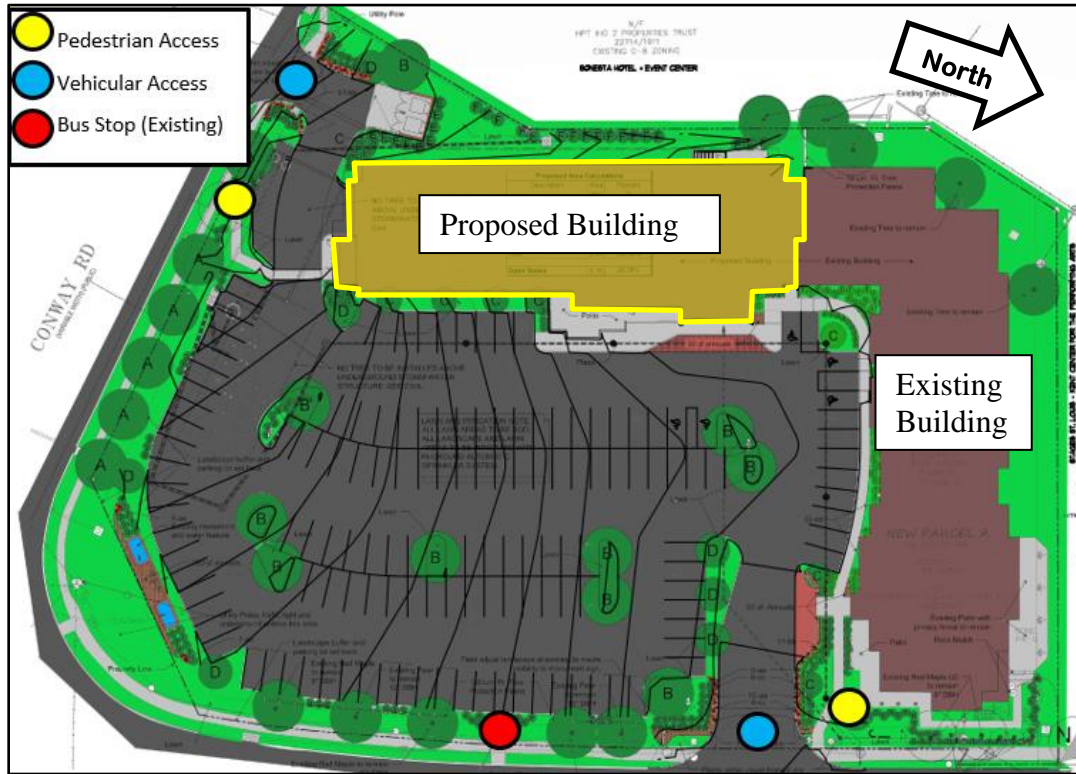

Figure 2: Color Site Plan
Two vehicular access points currently serve the site with a bus stop located along Chesterfield Parkway East. The proposed addition includes two (2) new pedestrian access points along both roads that continue through to the existing and proposed buildings while continuing to utilize the existing curb cuts entering the site. Figure 2 illustrates the location of each of these features.